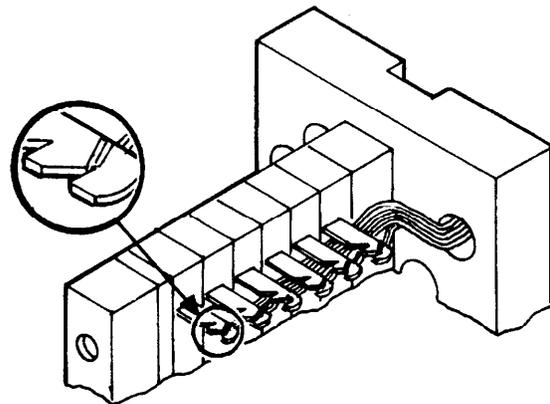

Figure 6a. Connecting 1 or 2 Wires per Pin.
5.01 When connecting only one conductor to a terminal on a block, connect on the outside notch of that terminal as shown in Figure 6a. There are, however, special circumstances when the conductor will be connected to the inside notch. These are as follows: